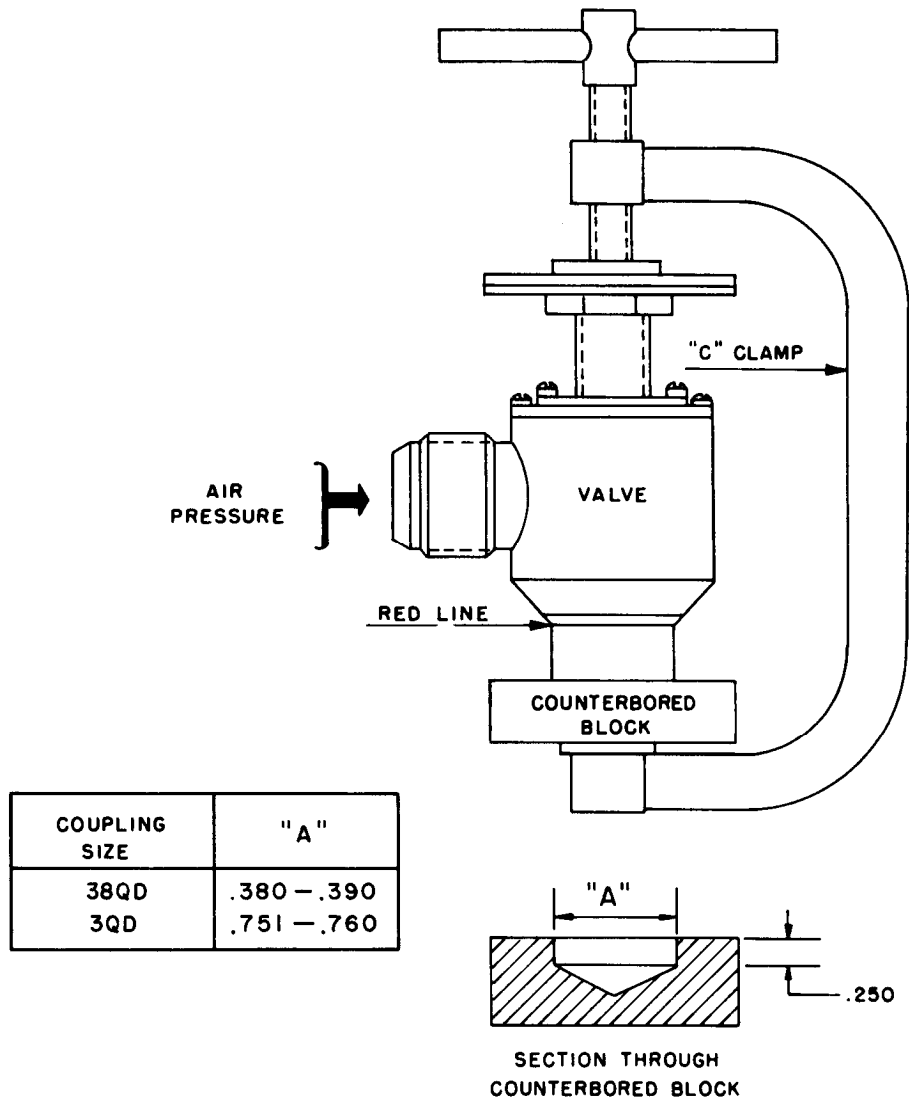

Figure 14. Fuel and air coupling valve test setup.
**b. Testing** (fig. 14).
- (1) Cap tank fitting end of valve by placing a counterbored block, drilled .760 to .770-inch diameter to a depth of ¼ inch, over the end of the valve. Install valve and counterbored block in "C" type clamp and compress until red line on piston is even with end of the valve body.
- (2) Connect supply of air to valve through the threaded port. The air supply must be capable of delivering 120 pounds of air per square inch, or greater.
- (3) Apply air pressure to valve unit, submerge in any suitable liquid such as water, kerosene, or fuel oil, and check for leakage. Any leakage of air in the form of bubbles at any pressure up to 120 psi will be cause for rejection and replacement.
- (1) Cap tank fitting end of the valve by placing a counterbored block, drilled .380-to .390 -inch diameter to a depth of ¼ inch, over the end of valve. Install valve and counterbored block in "G" type clamp and compress until red line on piston barrel is even with end of valve body.
- (2) Connect a supply of air to valve through threaded port. The air supply must be capable of delivering 120 pounds of air per square inch or greater.
- (3) Apply air pressure to valve unit; submerge in any suitable liquid such as water, kerosene, or fuel oil; and check for leakage. Any leakage of air in the form of bubbles at any pressure up to 120 psi will be cause for rejection and replacement.